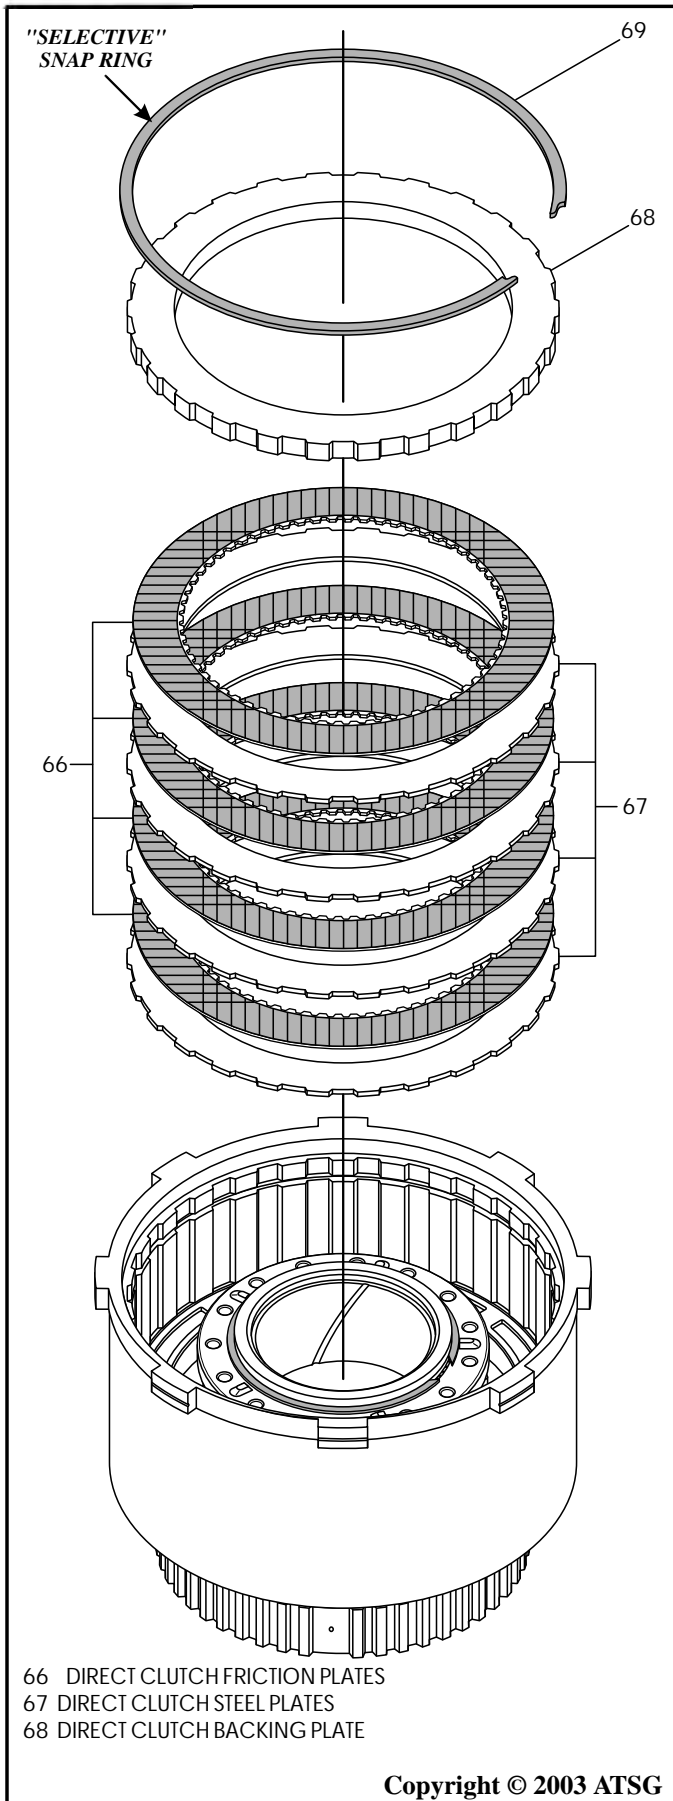

Figure 120
18. Install the direct clutch pack beginning with a steel plate and alternating with a friction plate, as shown in Figure 120, until you have proper amount of plates installed.
19. Install the direct clutch backing plate on top of the last friction plate, as shown in Figure 120.
20. Install the *selective* direct clutch backing plate snap ring, as shown in Figure 120, and ensure that it is fully seated.